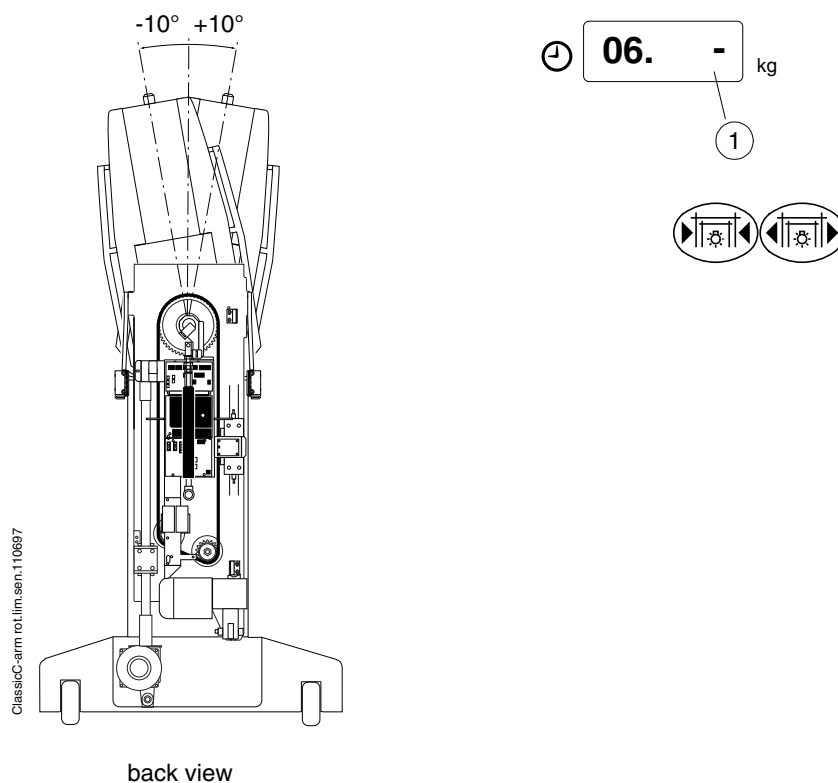

Figure F.32
- b) Check that the right middle signal (Fig. F.32, 1) on the display light when the C-arm is in the upright position ( $\pm 10^\circ$ ).